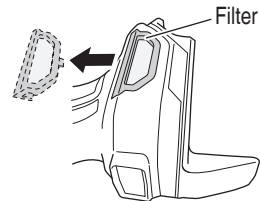

Fig. 19
- If the mesh is clogged and the debris or dust cannot be removed, detach the filter and clean it with an air blow gun, etc. (Fig. 19)